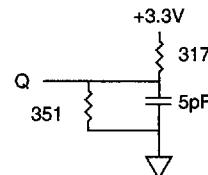

Fig. 2 OUTPUT LOAD EQUIVALENT
6. Output loading is specified with $C_L = 5pF$ as in Fig. 2. Transition is measured $\pm 500mV$ from steady state voltage.
11. The load used for V_{OH} , V_{OL} testing is shown in Fig. 2. AC load current is higher than the shown DC values. AC I/O curves are available upon request.